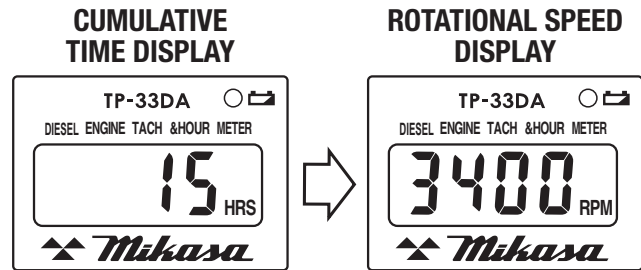

Figure 58. Tachometer/Hour Meter (Rotational Speed)
- Once the engine starts running, the tachometer/hour meter will display **rotational speed (RPM)**. See Figure 58.